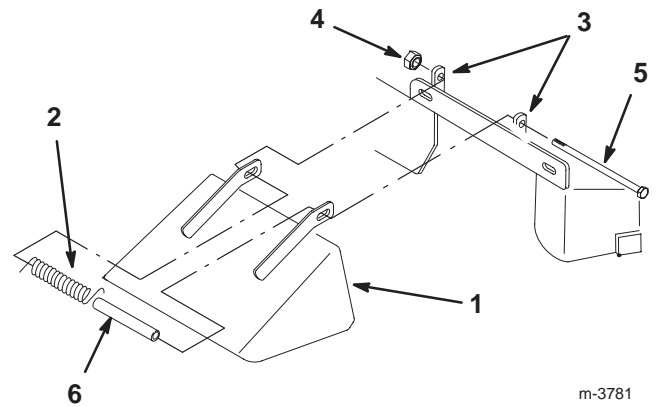

Figure 48
1. Remove the locknut, bolt, spring, and spacer that hold the deflector to the mounts (Fig. 48).
2. Straighten the deflector mounts if they are bent (Fig. 48).
6. Ensure that there is downward spring force on the deflector (Fig. 48).
7. Tighten the bolt and locknut until they lightly contact the pivot brackets (Fig. 48).